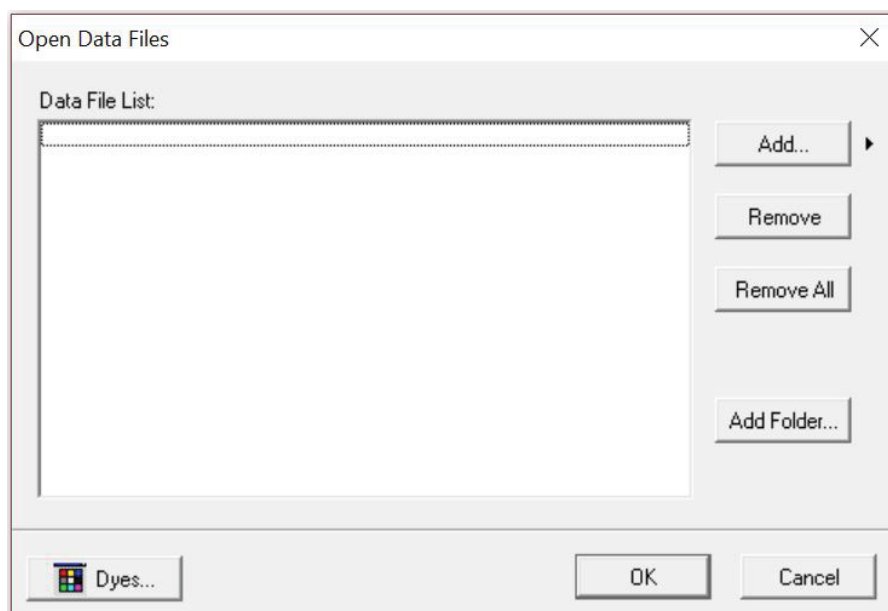

Figure 22. The GMHID-Spectrum Data File List.
4. Select **Open**, and the selected files will appear in the Data File List (Figure 22).